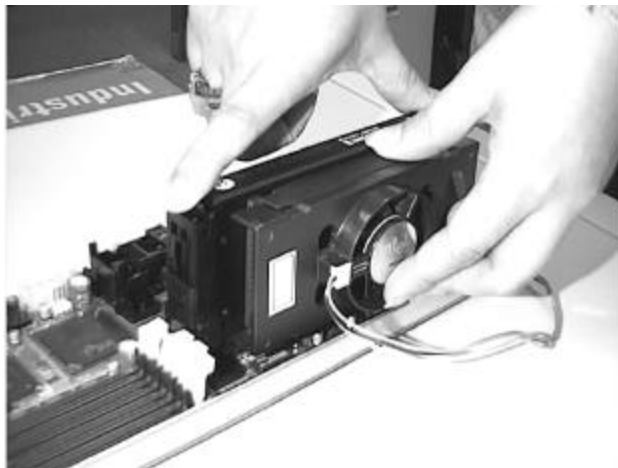
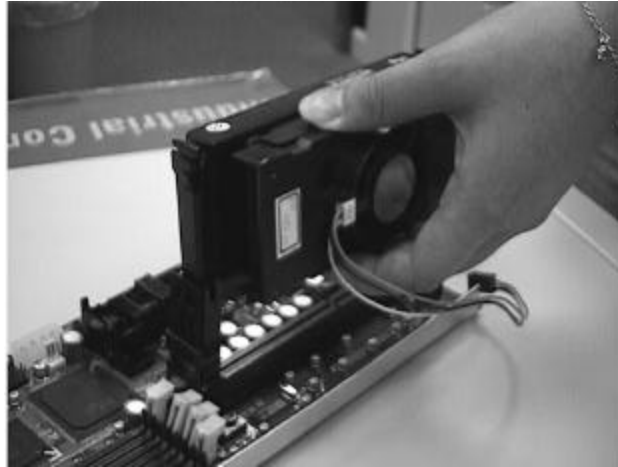

Fig. 3-5
Fig. 3-6
- 2). **Unmount the CPU Cartridge: Press the locks at both sides of the cartridge. Push gently but firmly the CPU Cartridge out of the retention module.** (Fig. 3-5, Fig. 3-6)